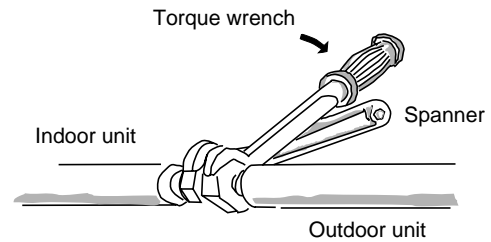

Fig. 47
- Tightly connect the indoor side refrigerant tubing extended from the wall with the outdoor side tubing. (Fig. 47)